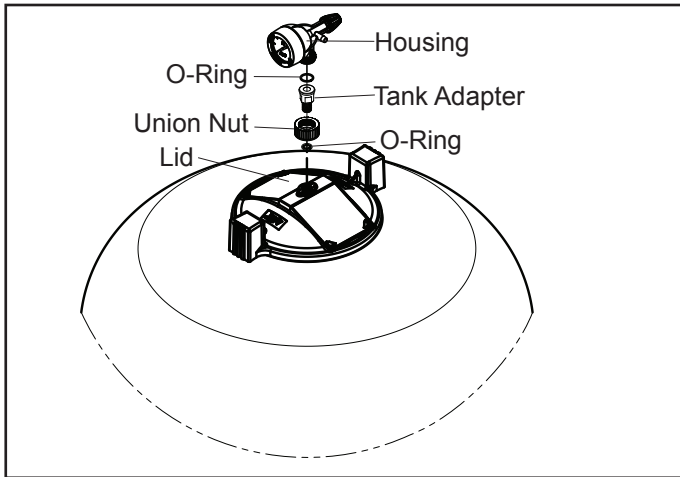

Figure 4. Pressure Gauge/Air Release Assembly
- a. Place the smaller, thicker o-ring onto the threads of the tank adapter. See Figure 4. Slide the tank adapter through the coupling nut and into the filter tank lid. Use the flats on the tank adapter to tighten. Do not overtighten.